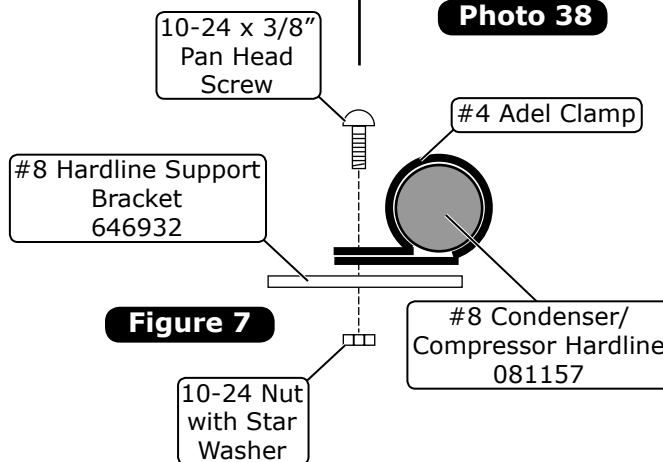

Figure 7
4. Secure the #8 condenser/compressor hardline to the #8 hardline support bracket using a #4 Adel clamp, a 10-24 x 3/8" pan head screw and a 10-24 nut with star washer (See Photo 38, and Figure 7, below). **NOTE: It is important to have enough clearance around the condenser and the hardlines. Make sure the condenser is not hitting the support braces between the grille and the condenser. If the condenser is hitting the support braces, loosen the bottom bolts of the support braces and move the bolts toward the front as much as possible. Make sure the hardlines are not hitting any other places on the core support (See Photo 39, below).**